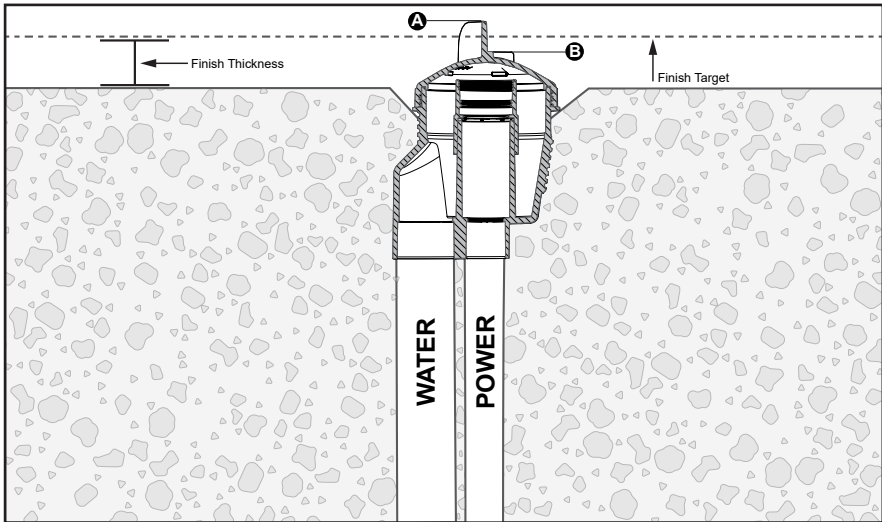

Figure 4. Bubbler Housing Installation Level
5. With the large construction cap on, install the Bubbler Housing onto the pipe so that the disired finished surface is above the lower indicator (B) and bellow the top of the cap (A). See figure 4